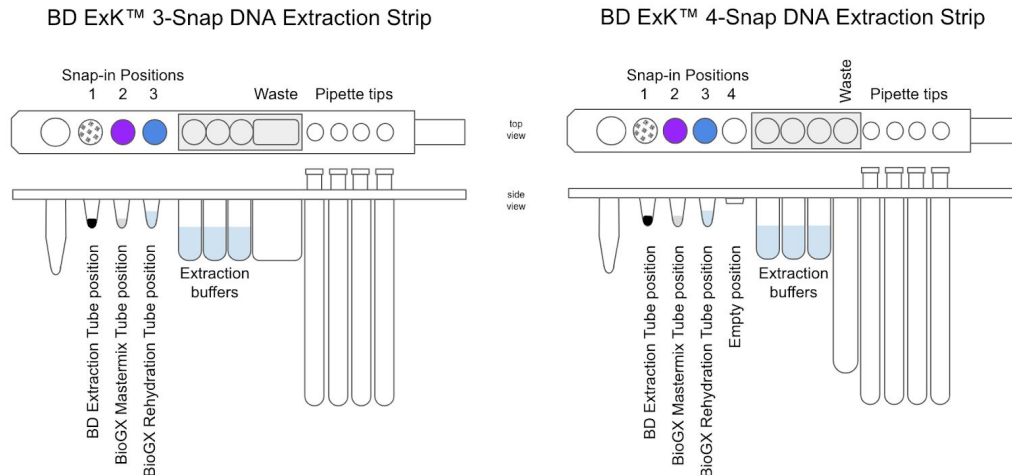

Figure 1 – Diagram of BD MAX™ ExK™ 3-snap and 4-snap Unitized Reagent Strips
- Snap one BD MAX™ ExK™ DNA-1 Extraction Tube into position 1 (Snap-in 1) of each Unitized Reagent Strip. (See Figure 1)